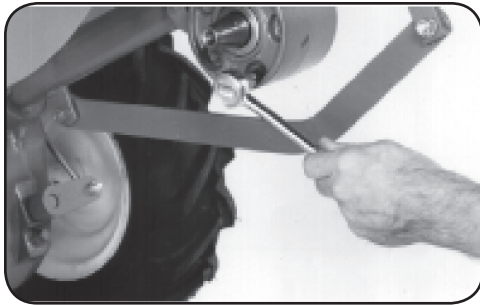

Figure 5-9
2. For complete drainage, remove the left-side tine assembly (See Tine Replacement in the Service section.), then remove just one of the lower screws from the tiller housing cover. See Figure 5-9. To speed drainage, remove the tine attachment dipstick to vent transmission.